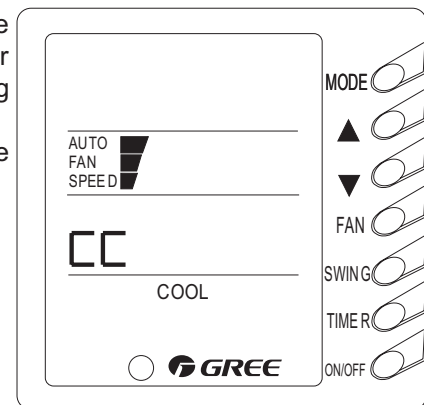

Fig.11
10) Connecting with centralized controller(Fig.11)